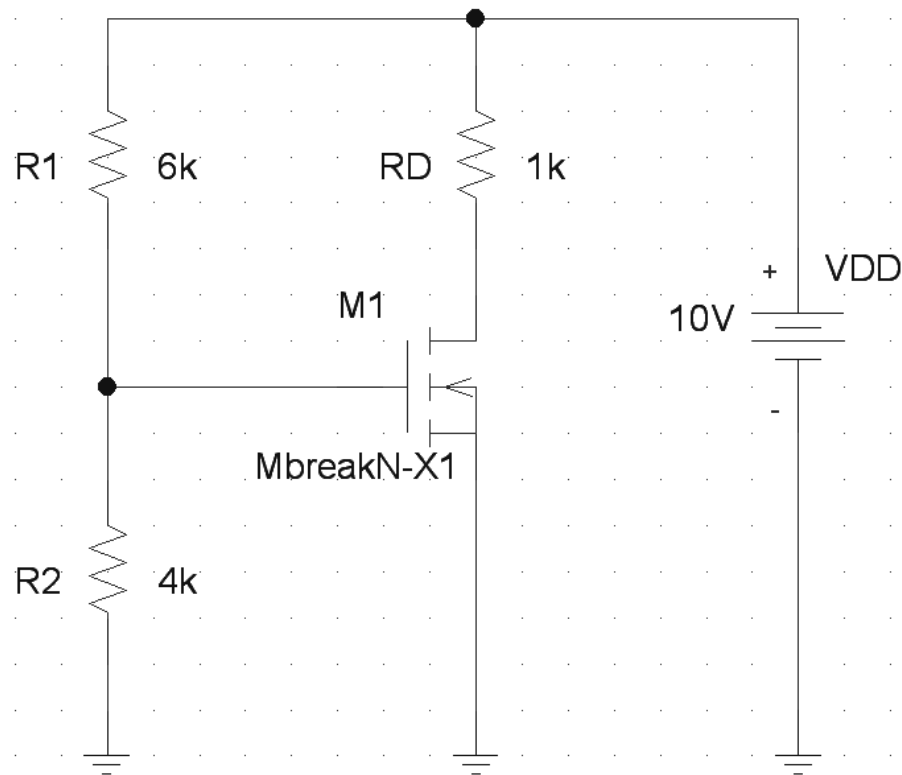

Figure 3. Bias circuit with voltage divider biasing the transistor.
1.2 Load line. Visualizing the curves, we can plot the load line of any hypothetical circuit. We will plot the load line of circuit we will see in paragraph 2 (see Figure 3). To do this, select **Add Trace (Insert)** and then enter the expression of the load line:
We want to analyze the operation of bias circuit of Figure 3. Transistor parameters are the same than those of paragraph 1: **Kp = 2m**, **Vto = 2V**, **L = 1u** **W = 2u**.